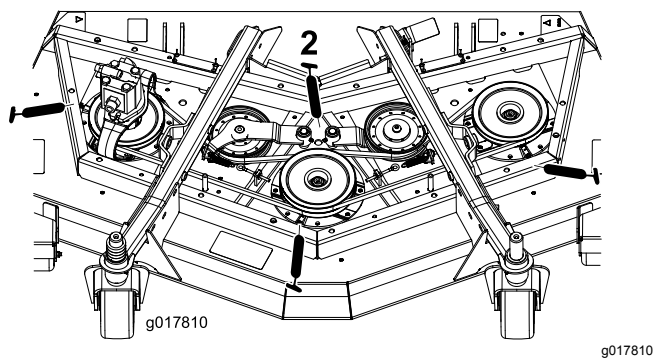

Figure 63
- 3 spindle-shaft bearings—located under the pulley (Figure 63)
- 2 idler-arm-pivot bushings (Figure 63)